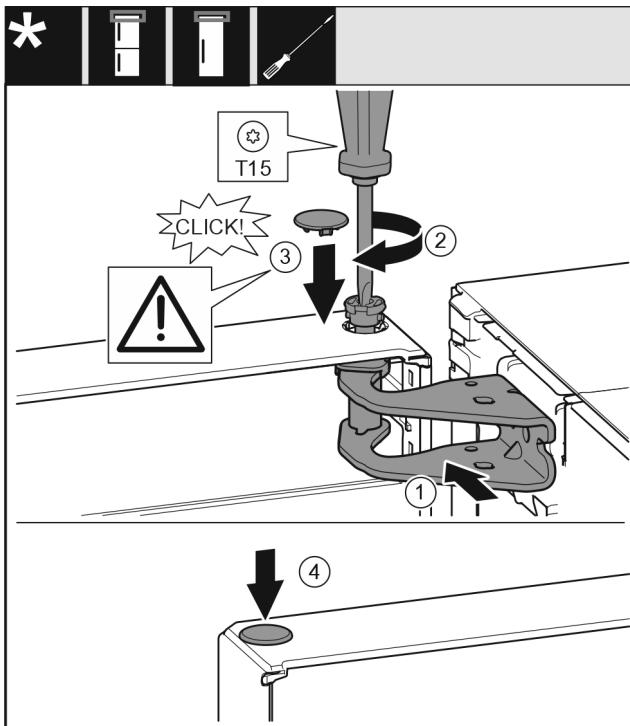

Fig. 21
- ▶ Align the top of the door with opening in the bearing bracket. *Fig. 21 (1)*
- ▶ Insert the bolt and tighten with a T15 screwdriver. *Fig. 21 (2)*
- ▶ Fit the protective cover to protect the door: Insert the protective cover and check that it lies flush on the door. If not, insert the bolt fully. *Fig. 21 (3)*
- ▶ Insert the plugs. *Fig. 21 (4)*